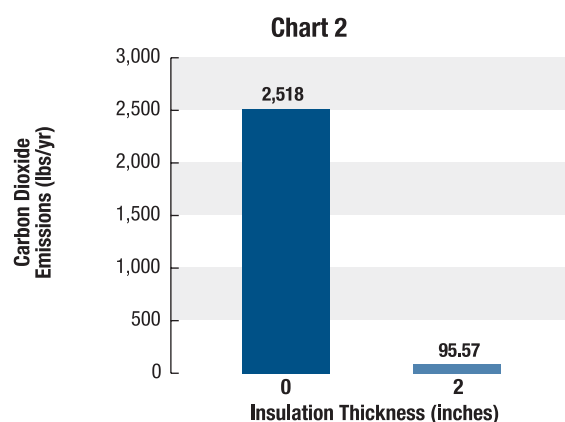

Figure 2. Carbon dioxide (CO2) emissions comparison for bare versus insulated 4-inch pipe.
- **Emissions control, although frequently not recognized, is another service insulation provides to an industrial plant.** Figure 2 shows the emissions loss from the same 4-inch pipe, comparing bare versus 2 inches of insulation.